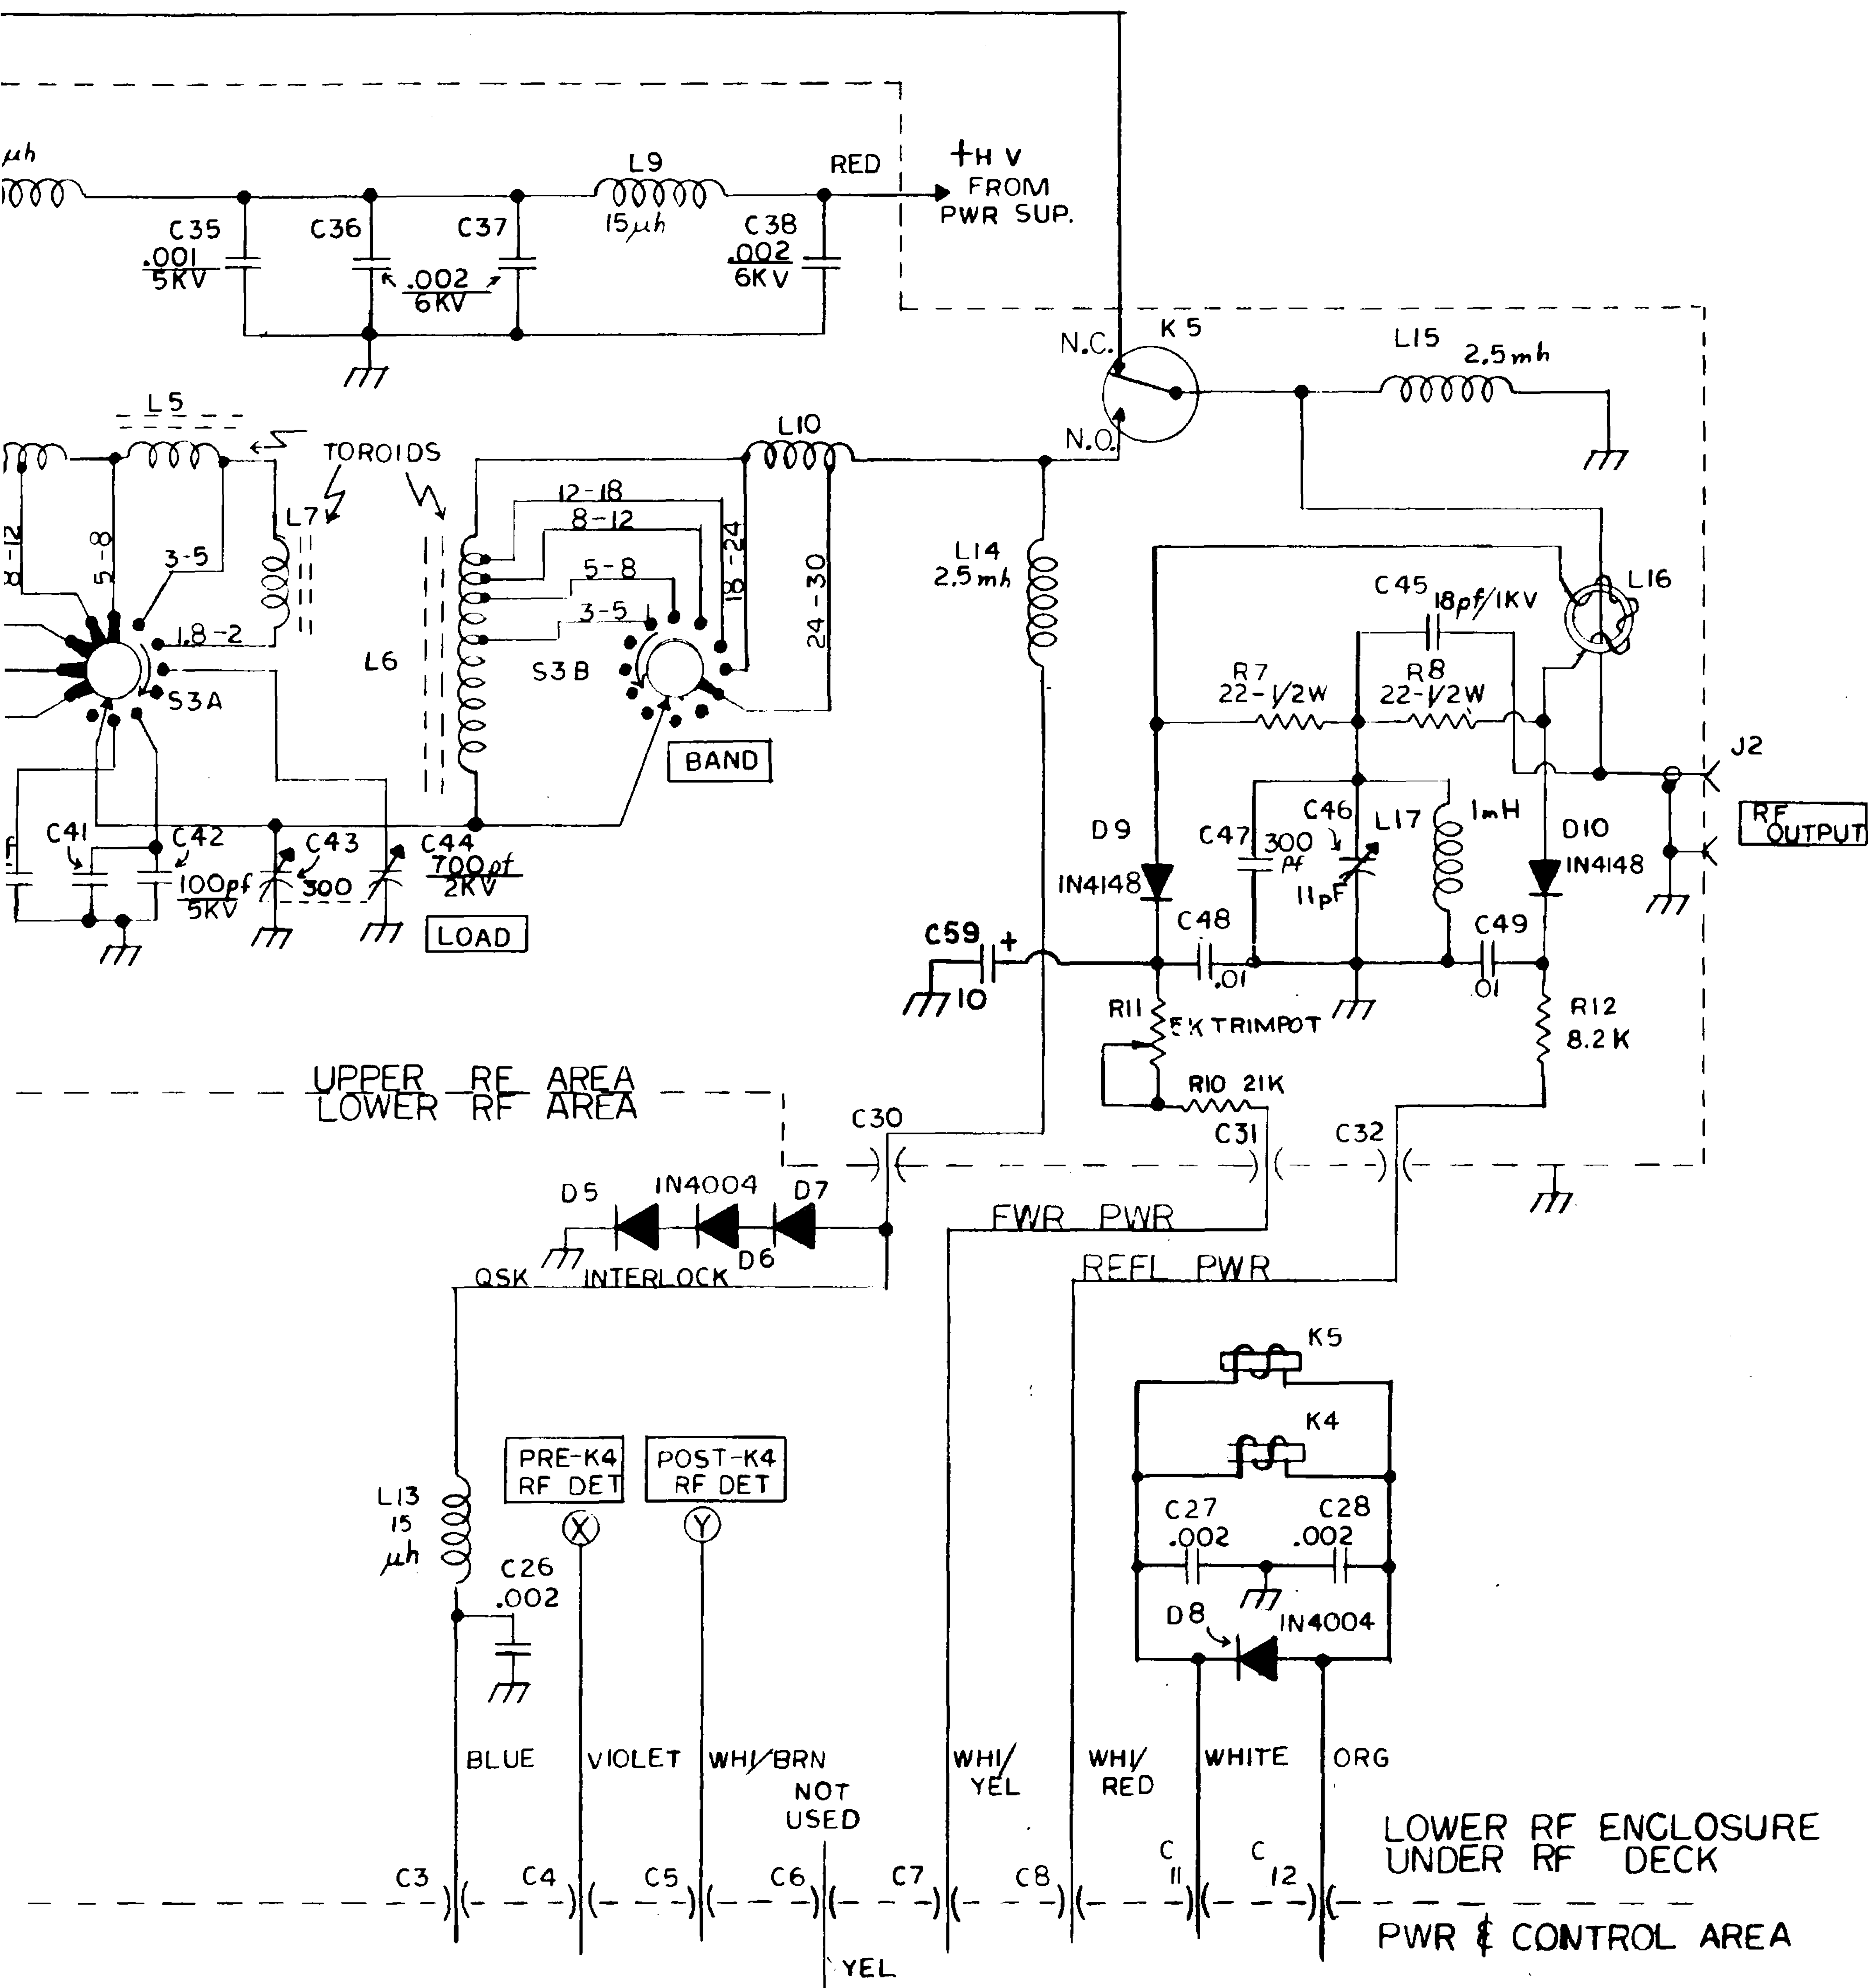

FIG. 18: ALPHA 77D & 77S SCHEMATIC - RF SECTION
1. 8877 RF Amplifier Circuitry: (Refer to Fig. 18) The 8877 triode tube (two, parallel-connected, in ALPHA 77S) is connected in grounded-grid for high stability, linearity, and simplicity. Bandswitch S2 and associated components provide pre-tuned input circuits to optimize performance on each amateur band from 160 through 15 meters (or other frequency ranges if appropriately readjusted). Switch S1 permits disconnecting the input tuning network for operation across the amplifier's entire tuning range without input network adjustments. (S1 is located adjacent to the tube socket on the top of the tube deck; move its button toward the rear of the chassis for untuned input.) *10M 77Dx/Sx.